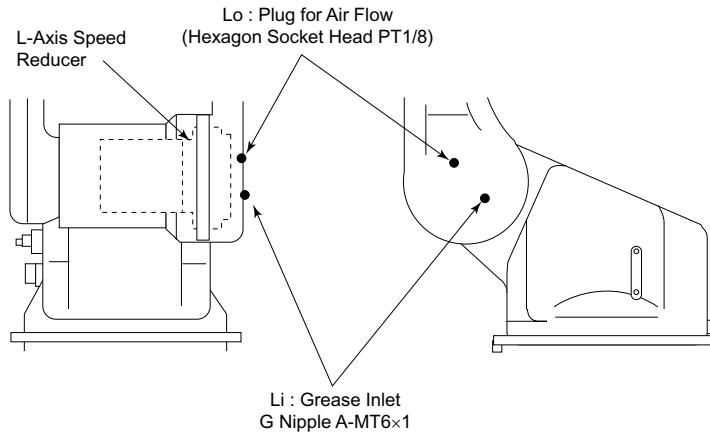

Fig. 25 L-Axis Speed Reducer Diagram
■ Grease Replenishment (Refer to " Fig. 25 L-Axis Speed Reducer Diagram ".)